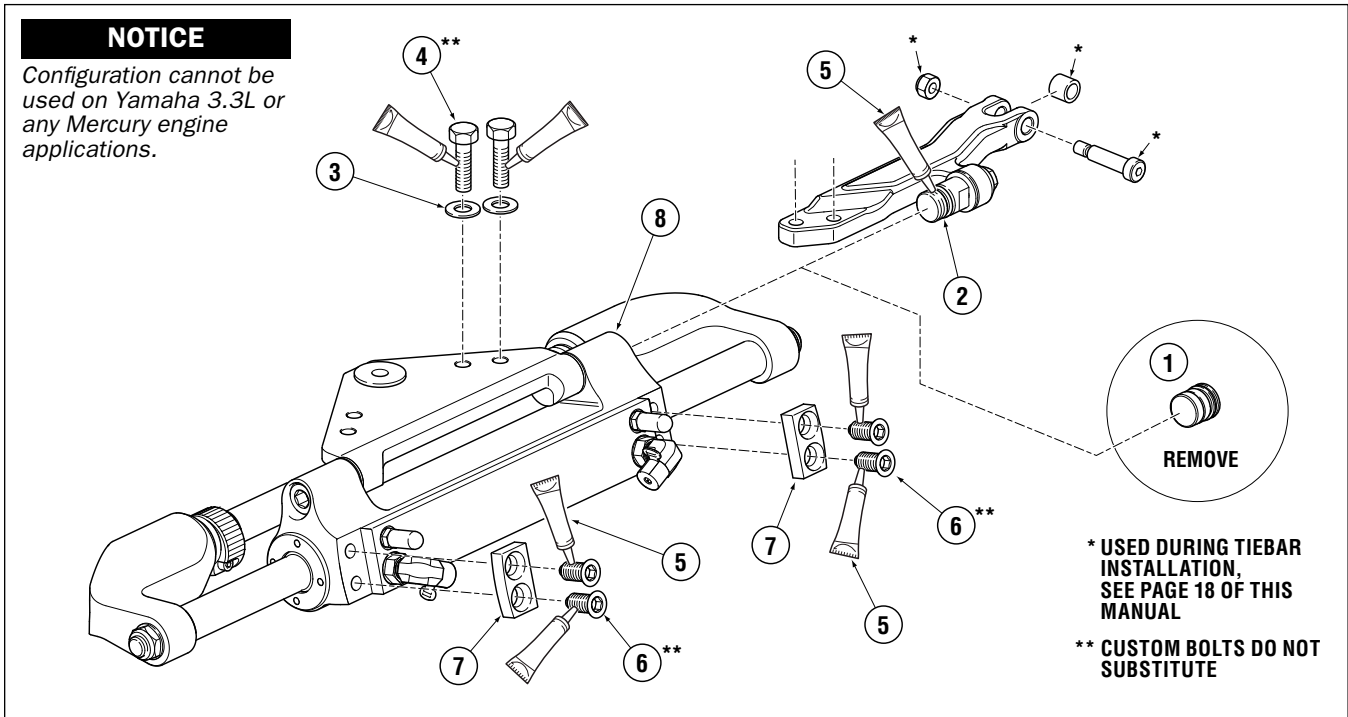

Figure 6. Twin Engine - Single Cylinder.
4. Apply thread locker to the threads of item 4. Install washer and bolts torque to 20ft-lb.
5. Apply thread locker (item 5) to the threads of item 6.
6. Mount blanking pates (item 7) to both sides of the steering cylinder (item 8) as shown in figure 6.
7. Torque bolts (item 6) to 50 ft-lb.